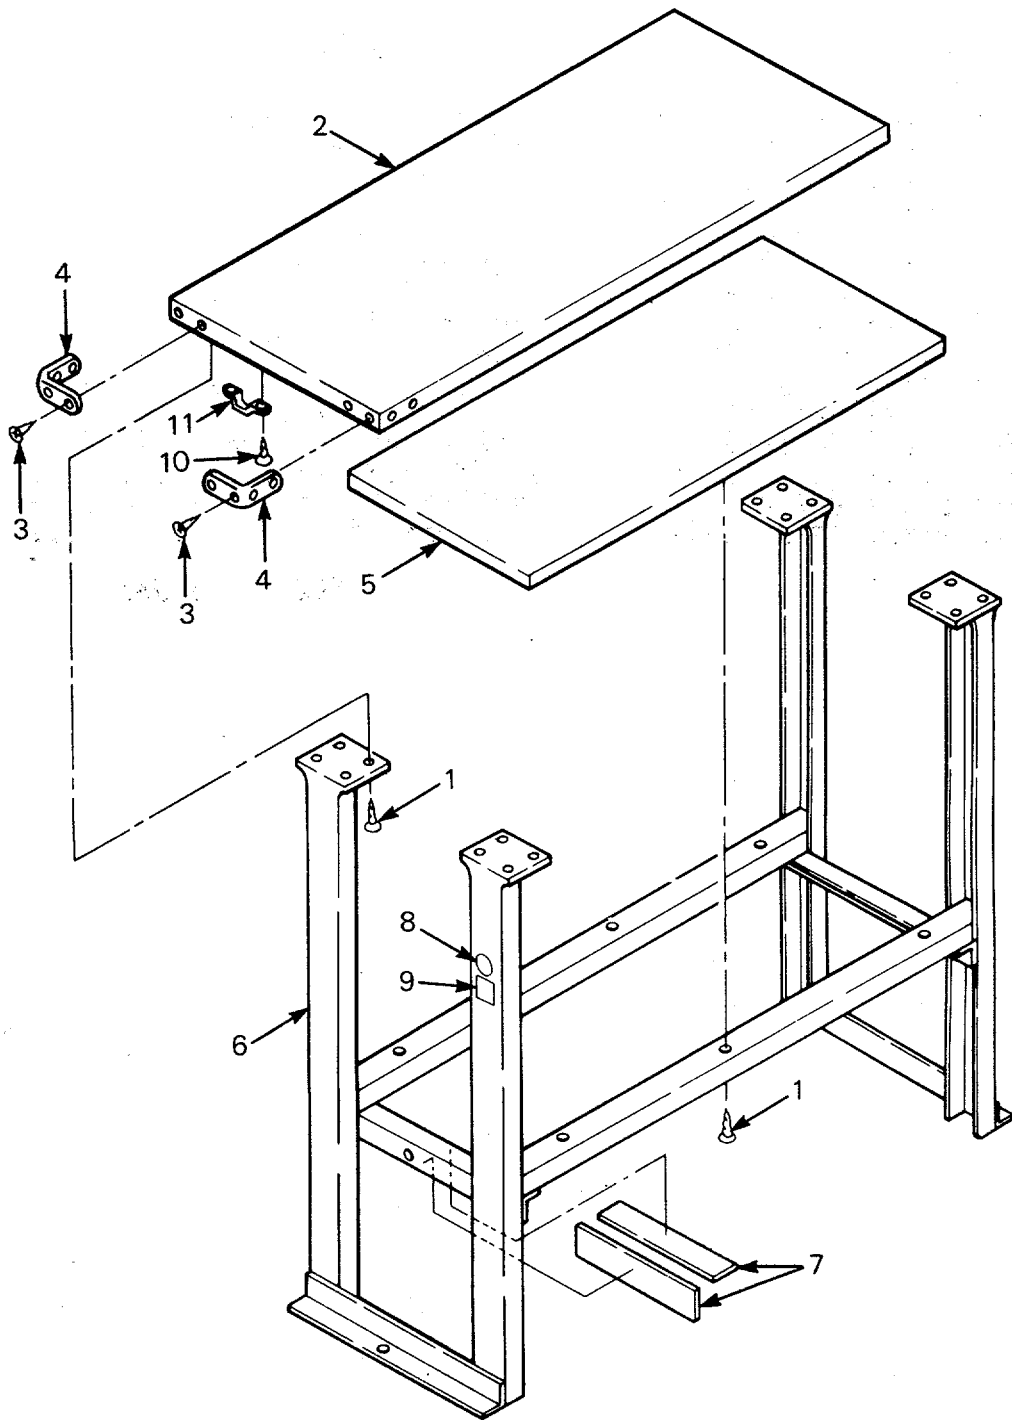

Figure 26. Shelf Table Assembly
| (1) ITEM NO | (2) SMR CODE | (3) CAGEC | (4) PART NUMBER | (5) DESCRIPTION AND USABLE ON CODES(UOC) GROUP 12 SHELF TABLE ASSEMBLY FIG. 26 SHELF TABLE ASSEMBLY | (6) QTY |